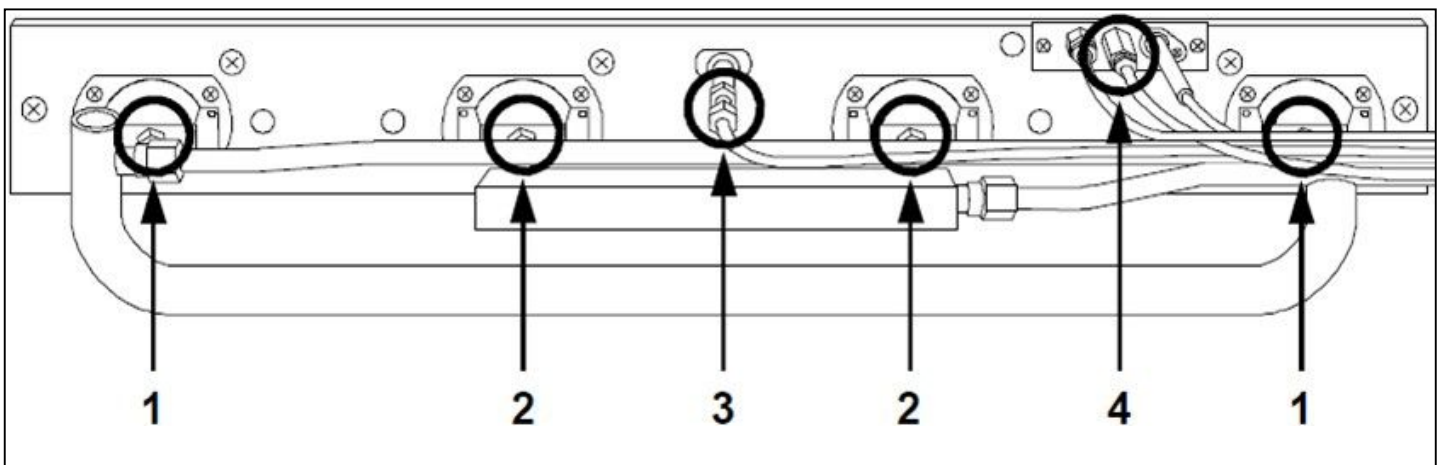

FIG. 8
Replace the injector (fig.8-ref.3) as indicated in the technical data table for the oven model purchased.
Unscrew the fitting (fig.8-ref.4) and replace the injector with the appropriate injector as indicated in the technical data table for the oven model.